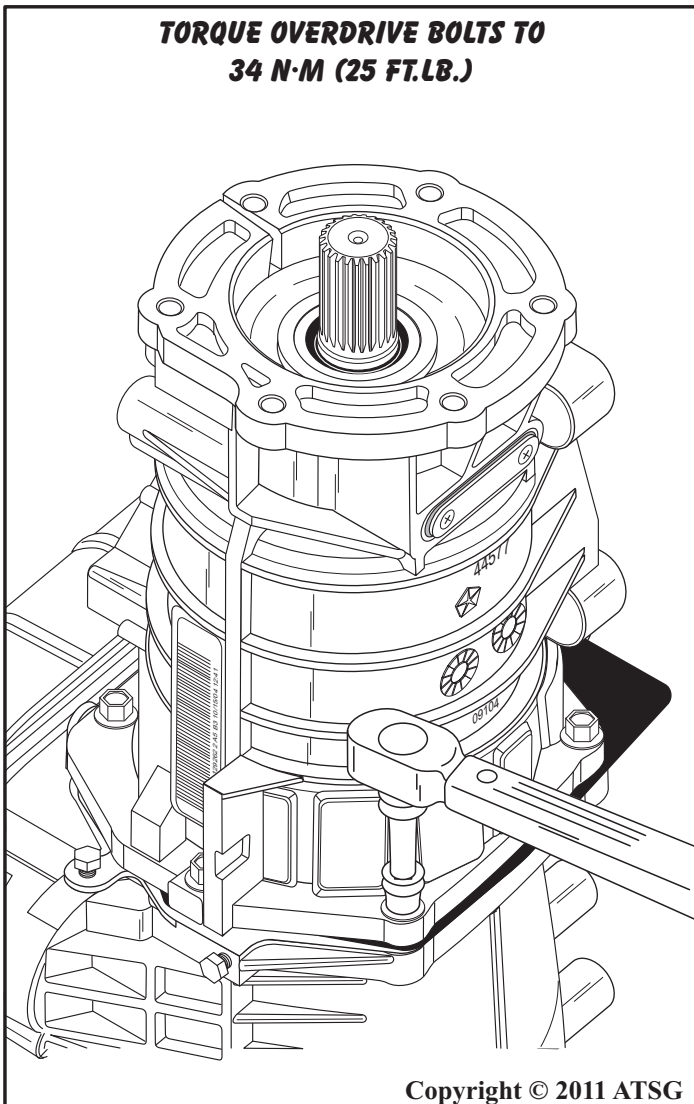

Figure 241
66. Torque the overdrive to case retaining bolts to 34 N·m (25 ft.lb.), as shown in Figure 241.